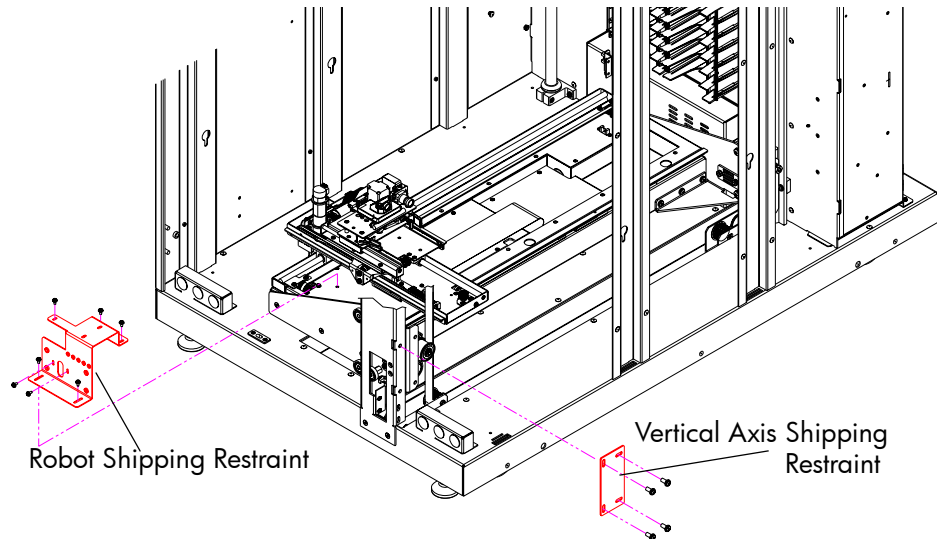

Figure 17: Removing the vertical axis and robot shipping restraints
9. From the front of the library, remove two shipping restraints using a #2 Phillips screwdriver (see Figure 17). The vertical axis shipping restraint is secured by four screws, and the robot shipping restraint is secured by seven screws.